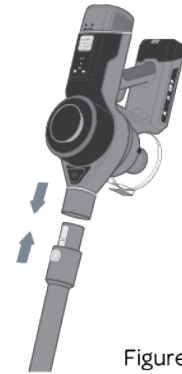

Figure 1
1. Press and hold the Vacuum Body Release Button and gently pull the vacuum body from the stick (Figure 1).